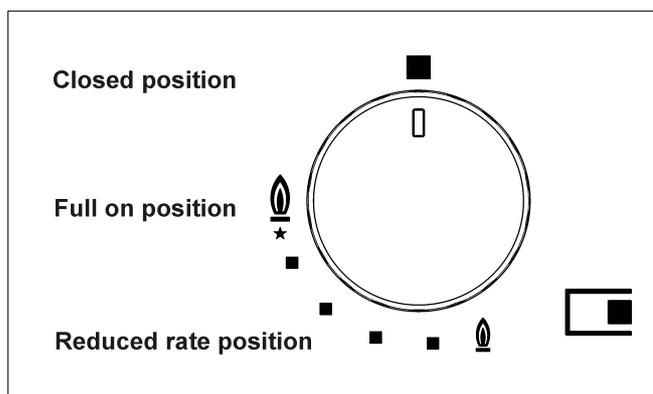

FIG. 1
Push and turn the knob corresponding to the required burner in an anticlockwise direction until it reaches the full on position (large flame fig. 1), then place a lighted match near the burner.
Push and turn the knob corresponding to the required burner in an anticlockwise direction until it reaches the full on position (large flame fig. 1), then depress the knob.
The knobs of burners equipped with flame failure device must be turned in an anticlockwise direction until they reach the full on position (large flame fig. 1) and come to a stop. Now depress the knob in question and repeat the previously indicated operations.
- When the pan comes to the boil, set the knob to the reduced rate position (small flame fig. 1).
- **burners with flame failure device may only be ignited when the relative knob has been set to the Full on position (large flame fig. 1).**